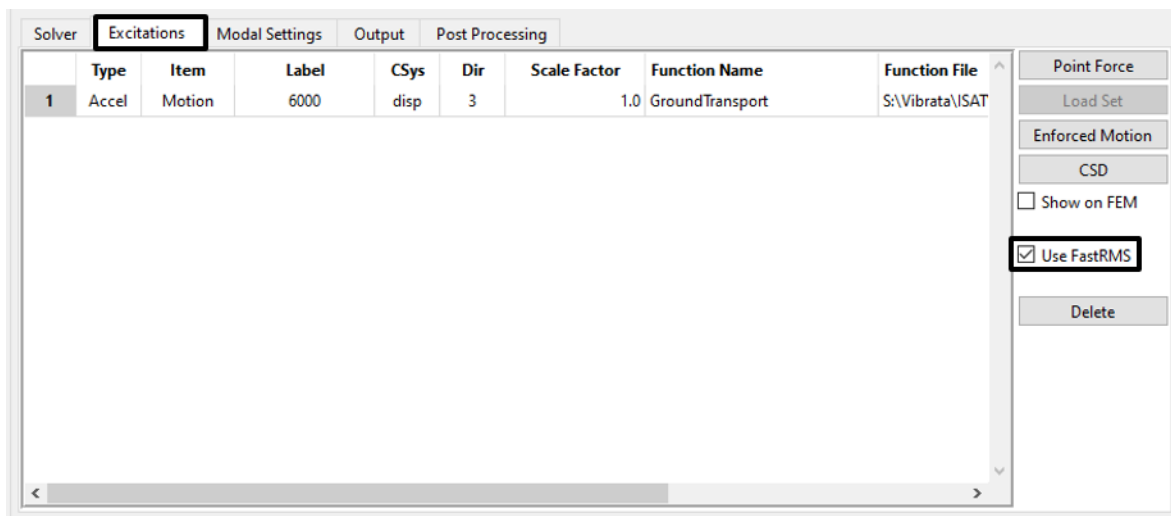

Figure 4-69. Turn on the *Use FastRMS* toggle on the *Excitations* tab.
2. On the *Excitations* tab, turn on the *Use FastRMS* toggle (Figure 4-69). That is the only change needed for the new event.